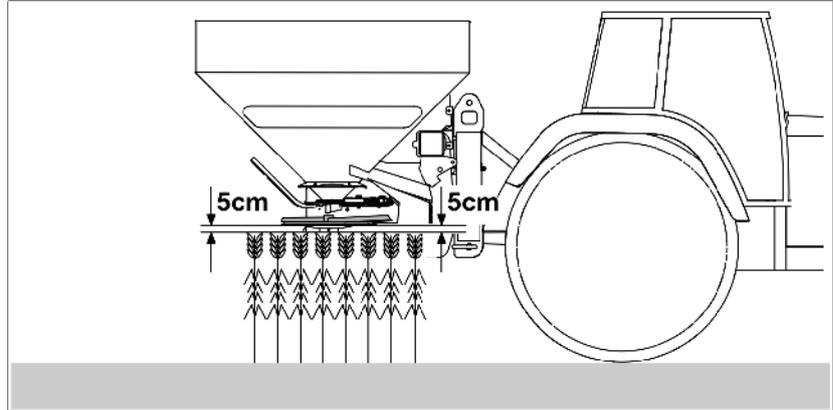

Fig. 62
- Main menu: call up Calibration menu (Fig. 62/1).